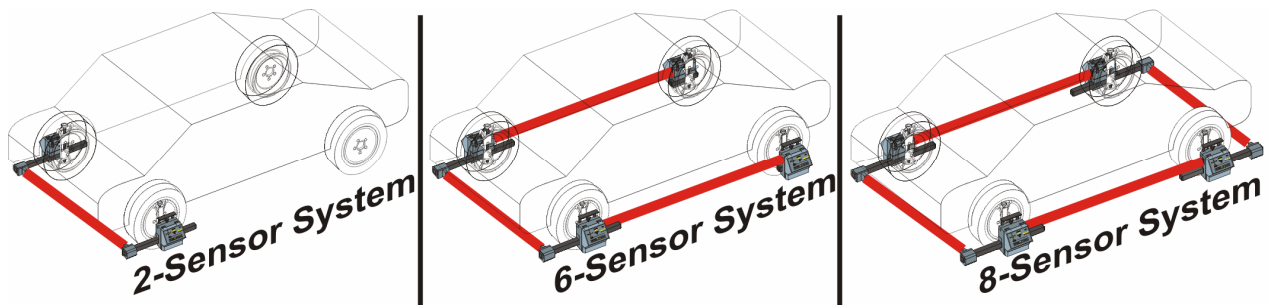

Figure 3-2. Determining Wheel Unit Location – By Sensor Quantity
3.1.3 Using Figure 3-2 as a guide, determine the positioning of the wheel units and place wheel units and rim clamps on the ground, under or near each of the tires on the vehicle.